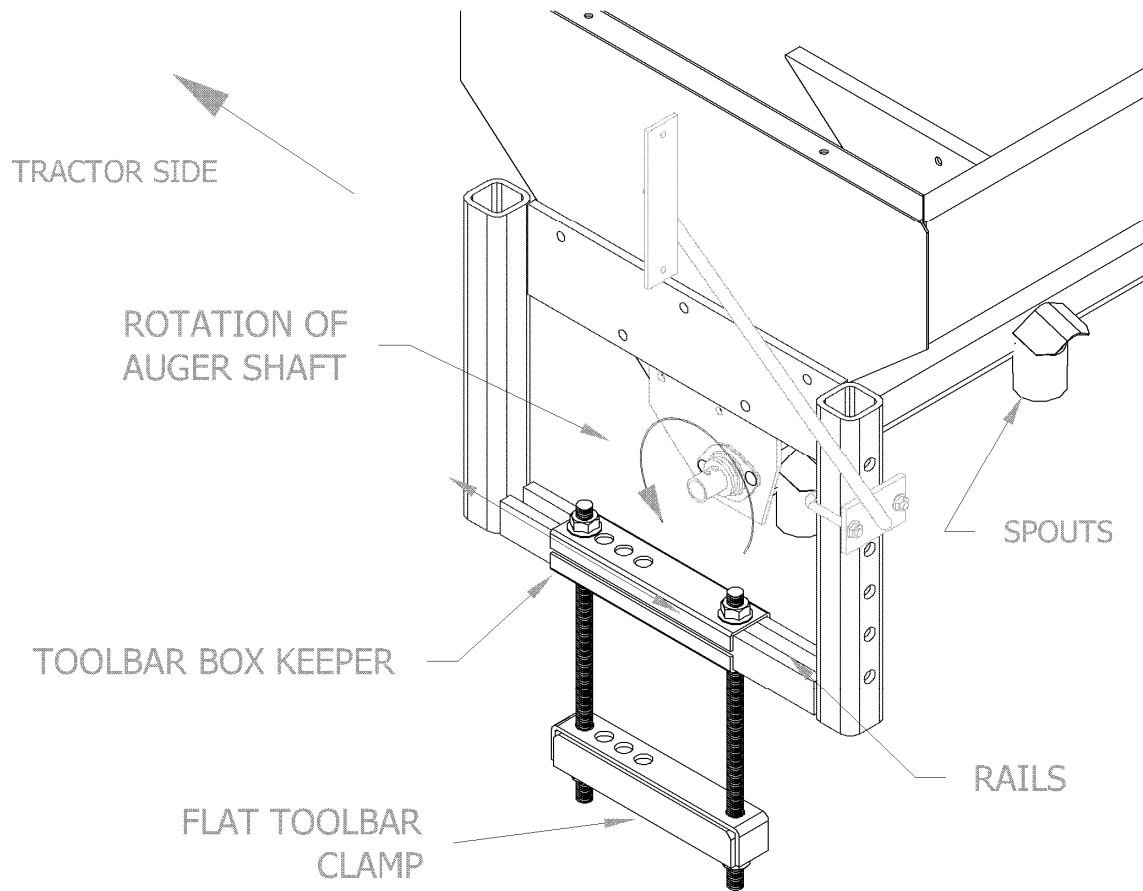

Figure 1
1. WHEN MOUNTING THE MODEL FA 500# BOX THERE ARE MANY THINGS TO CONSIDER BEFORE STARTING. (Figure 1)